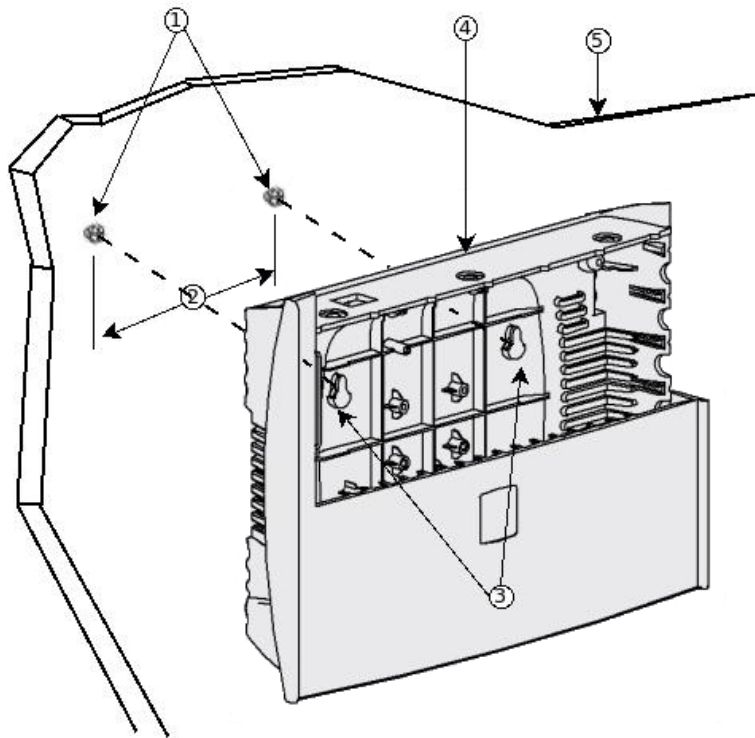

Fig. 8: Wall-mounting features on the bintec RSC router
Step 2: Hang the router on the screws as shown (see Fig. 8 on page 9) for safety reasons.